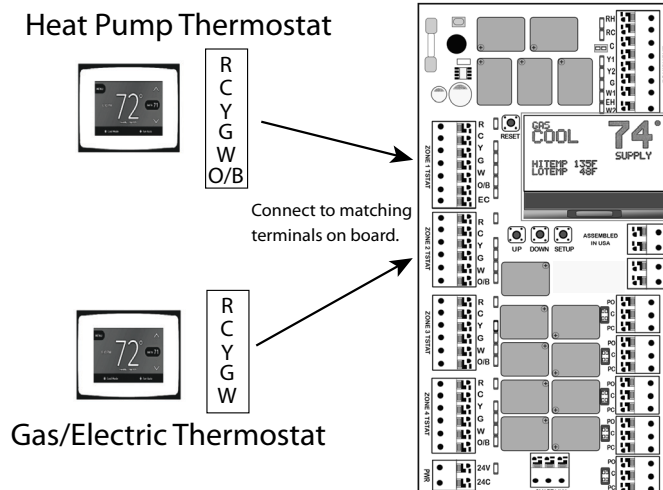

Fig. 2 – Thermostat Wiring
1. Connect either single stage gas/electric or heat pump thermostats to each terminal blocks labeled Zone 1 TSTAT, Zone 2 TSTAT, Zone 3 TSTAT and Zone 4 TSTAT (Fig. 2).